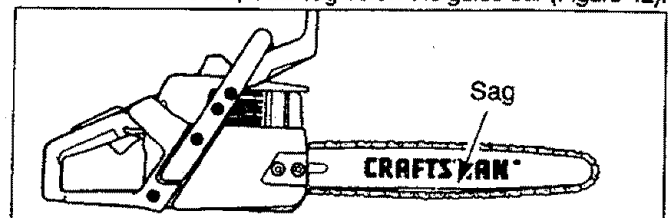

Figure 42
- If chain is too loose, it will sag below the guide bar (Figure 42).